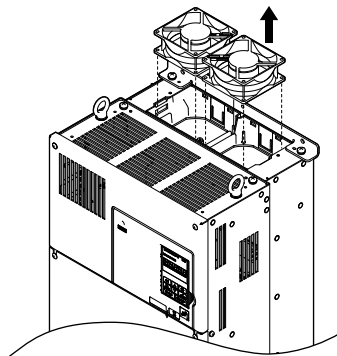

Figure 28 Remove the Cooling Fan: 4T0088□ and 4T0103□
2. Lift up directly on the cooling fan as shown in Figure 28. Unplug the relay connector and release the fan from the drive.